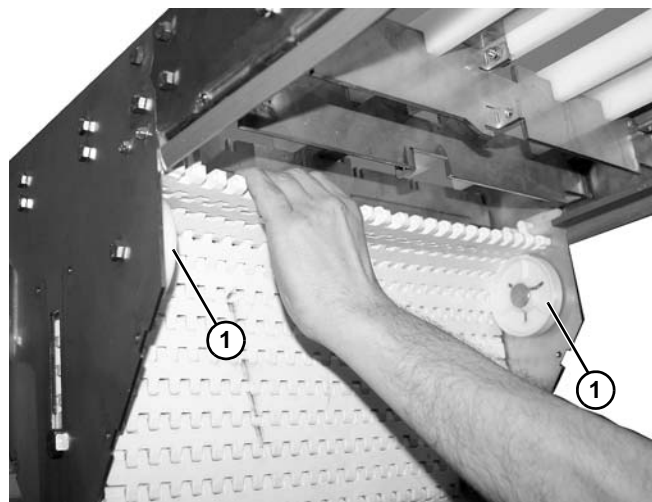
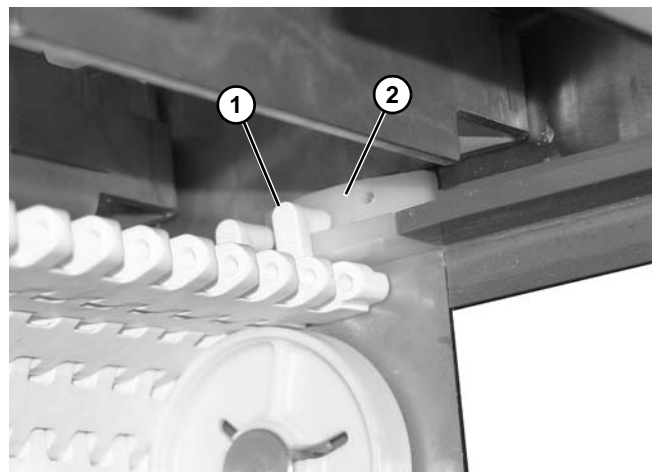

Figure 14
Figure 15
5. If applicable, feed the end of the belt around the pucks (**Figure 14, item 1**) in the gravity take-up. Make sure the belt tabs (**Figure 15, item 1**) are properly engaged with the wearstrips (**Figure 15, item 2**).